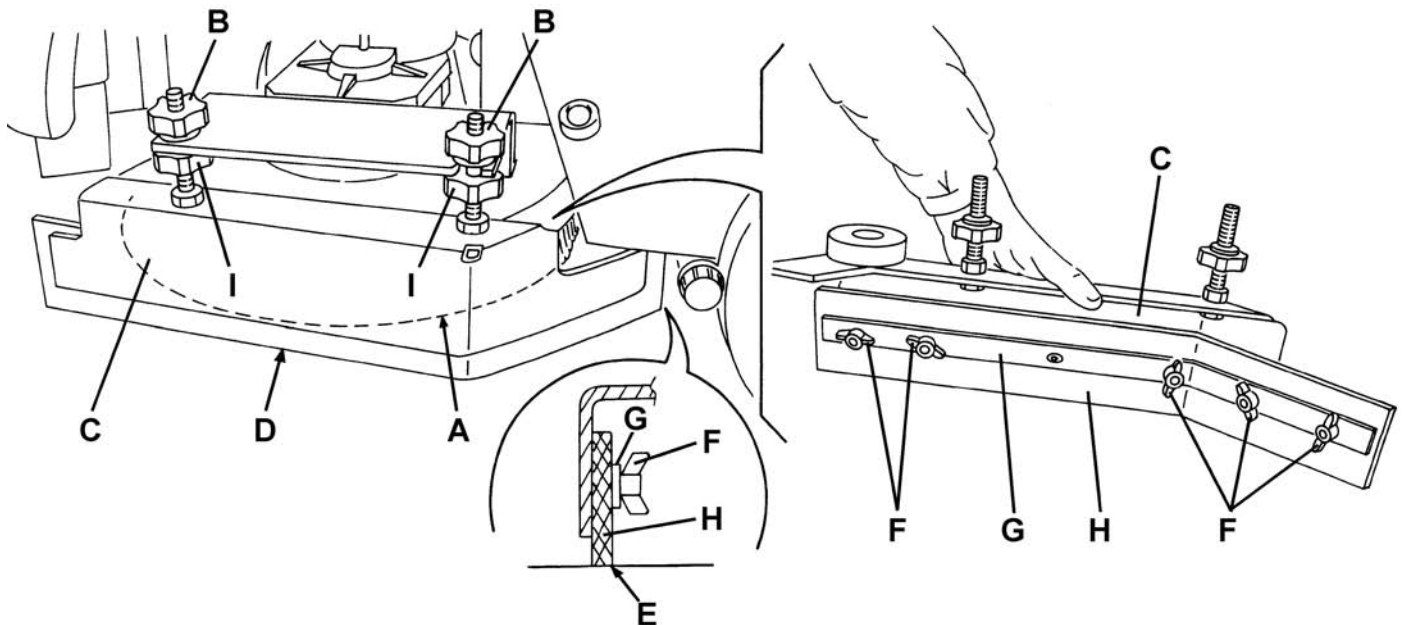

Figure 5
2. Turn the ignition key (41) to "0".
3. On both sides of the machine, unscrew the knobs (B, Fig. 5) and remove the side skirt assembly (C).
5. Check that the side skirt lower edge (D):
- has the inner corner (E) that is not worn;